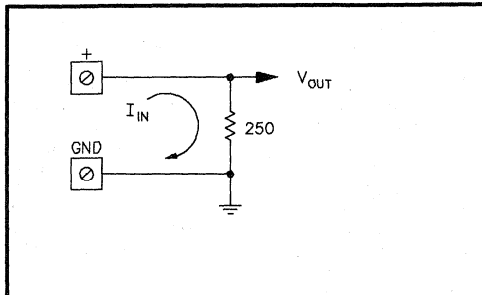

Figure 8.3. 4-20mA input conversion circuit (single-ended).
**Current Conversion** -- The need to measure input current is quite common in DA&C systems. The outputs from remote sensors are often converted to high-level, 4 to 20mA signals at the source. This task is easily accomplished with a wide variety of "transmitters". At the measurement system, current is easily converted back to a voltage with a simple resistor. See Figure 8.3. Values of 250 to 500 ohms are often used to provide voltage ranges of 1-5 volts and 2-10 volts, respectively for a 4-20mA signal. The largest resistor that does not cause an over-range condition should be employed. This insures the maximum resolution. Stability of the resistor is essential, however, the exact value is not im-